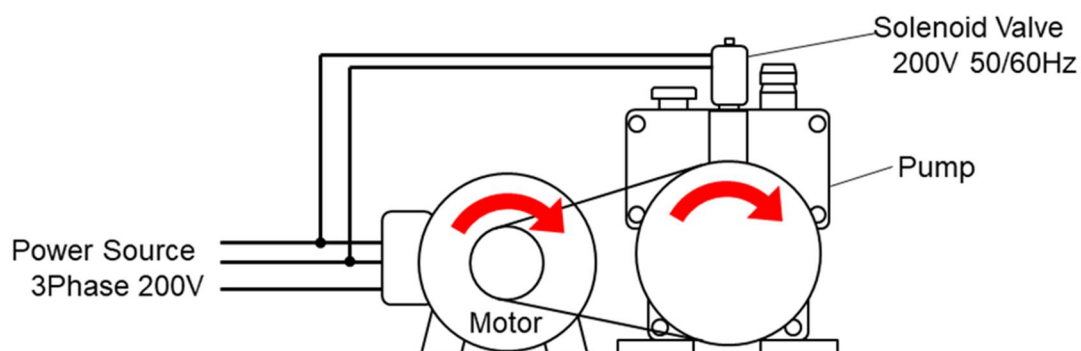

Fig. 18 Electrical wiring diagram for Vac. Lock Valve
- 6) Connect the solenoid valve as [Fig.18] (only for Type PVD-180B or PVD-360B)